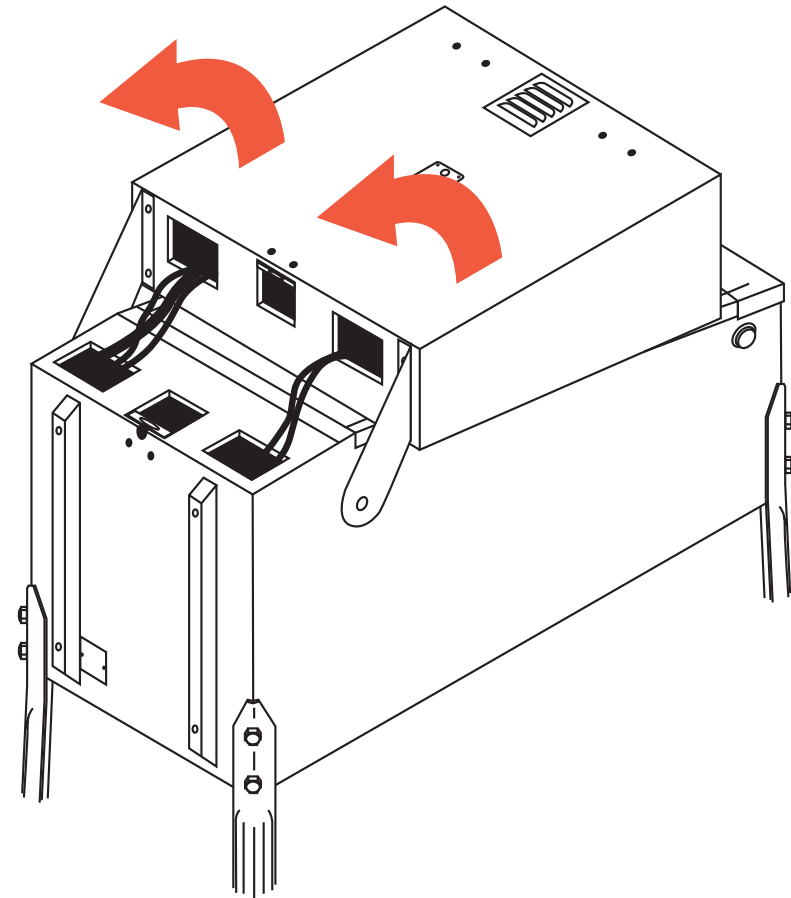

Figure A7. Raising the backbox to its upright position.
**7)** Using wire cutters, cut the nylon strap holding the backbox down (**CAUTION: PROTECT YOUR EYES** and have helpers/bystanders move away! The sharp ends of the cut strap will likely whip violently away from the game!). Remove the remainder of the packing material from the game and raise the backbox to its upright position (see figure A7). Ensure that the cables and wires in the neck of the game do not get pinched at any time during this process.